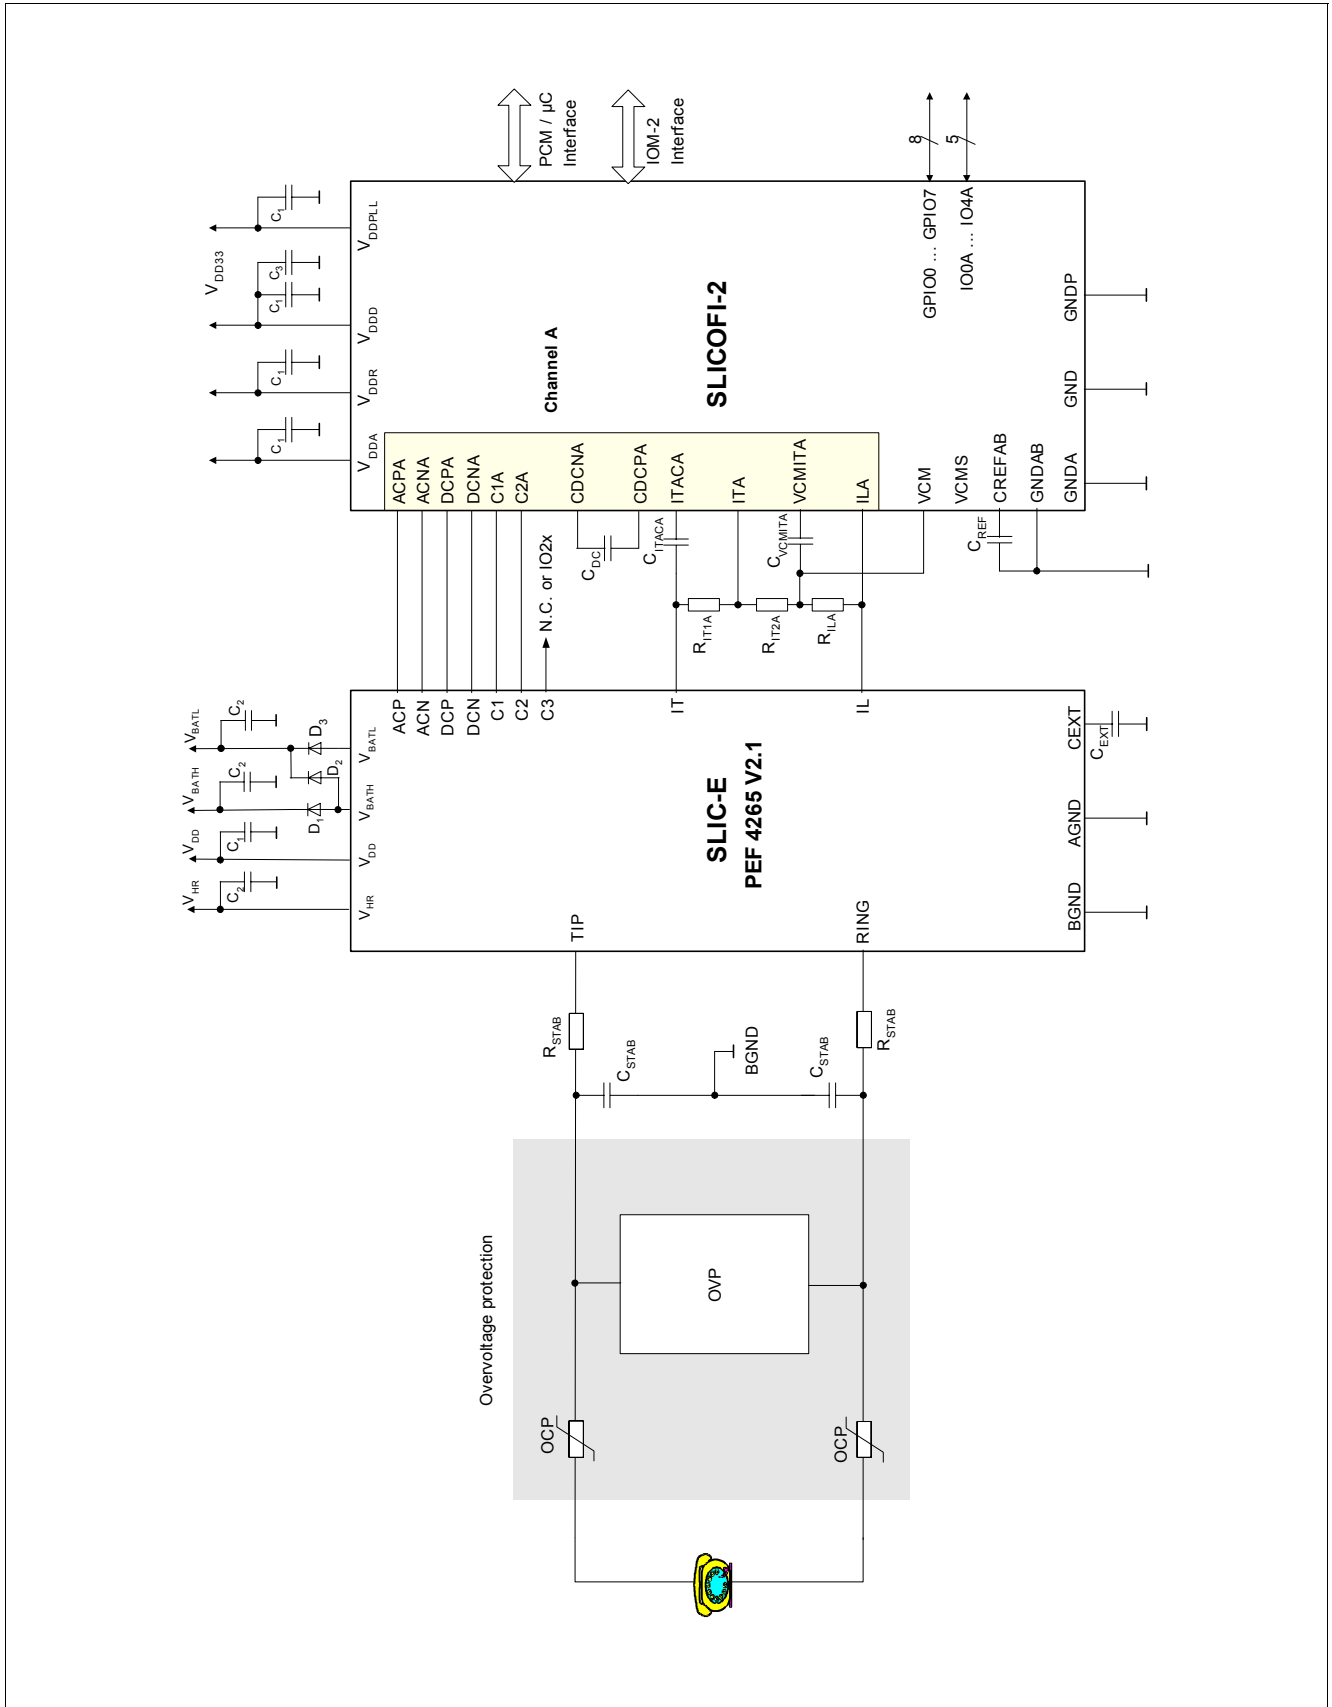
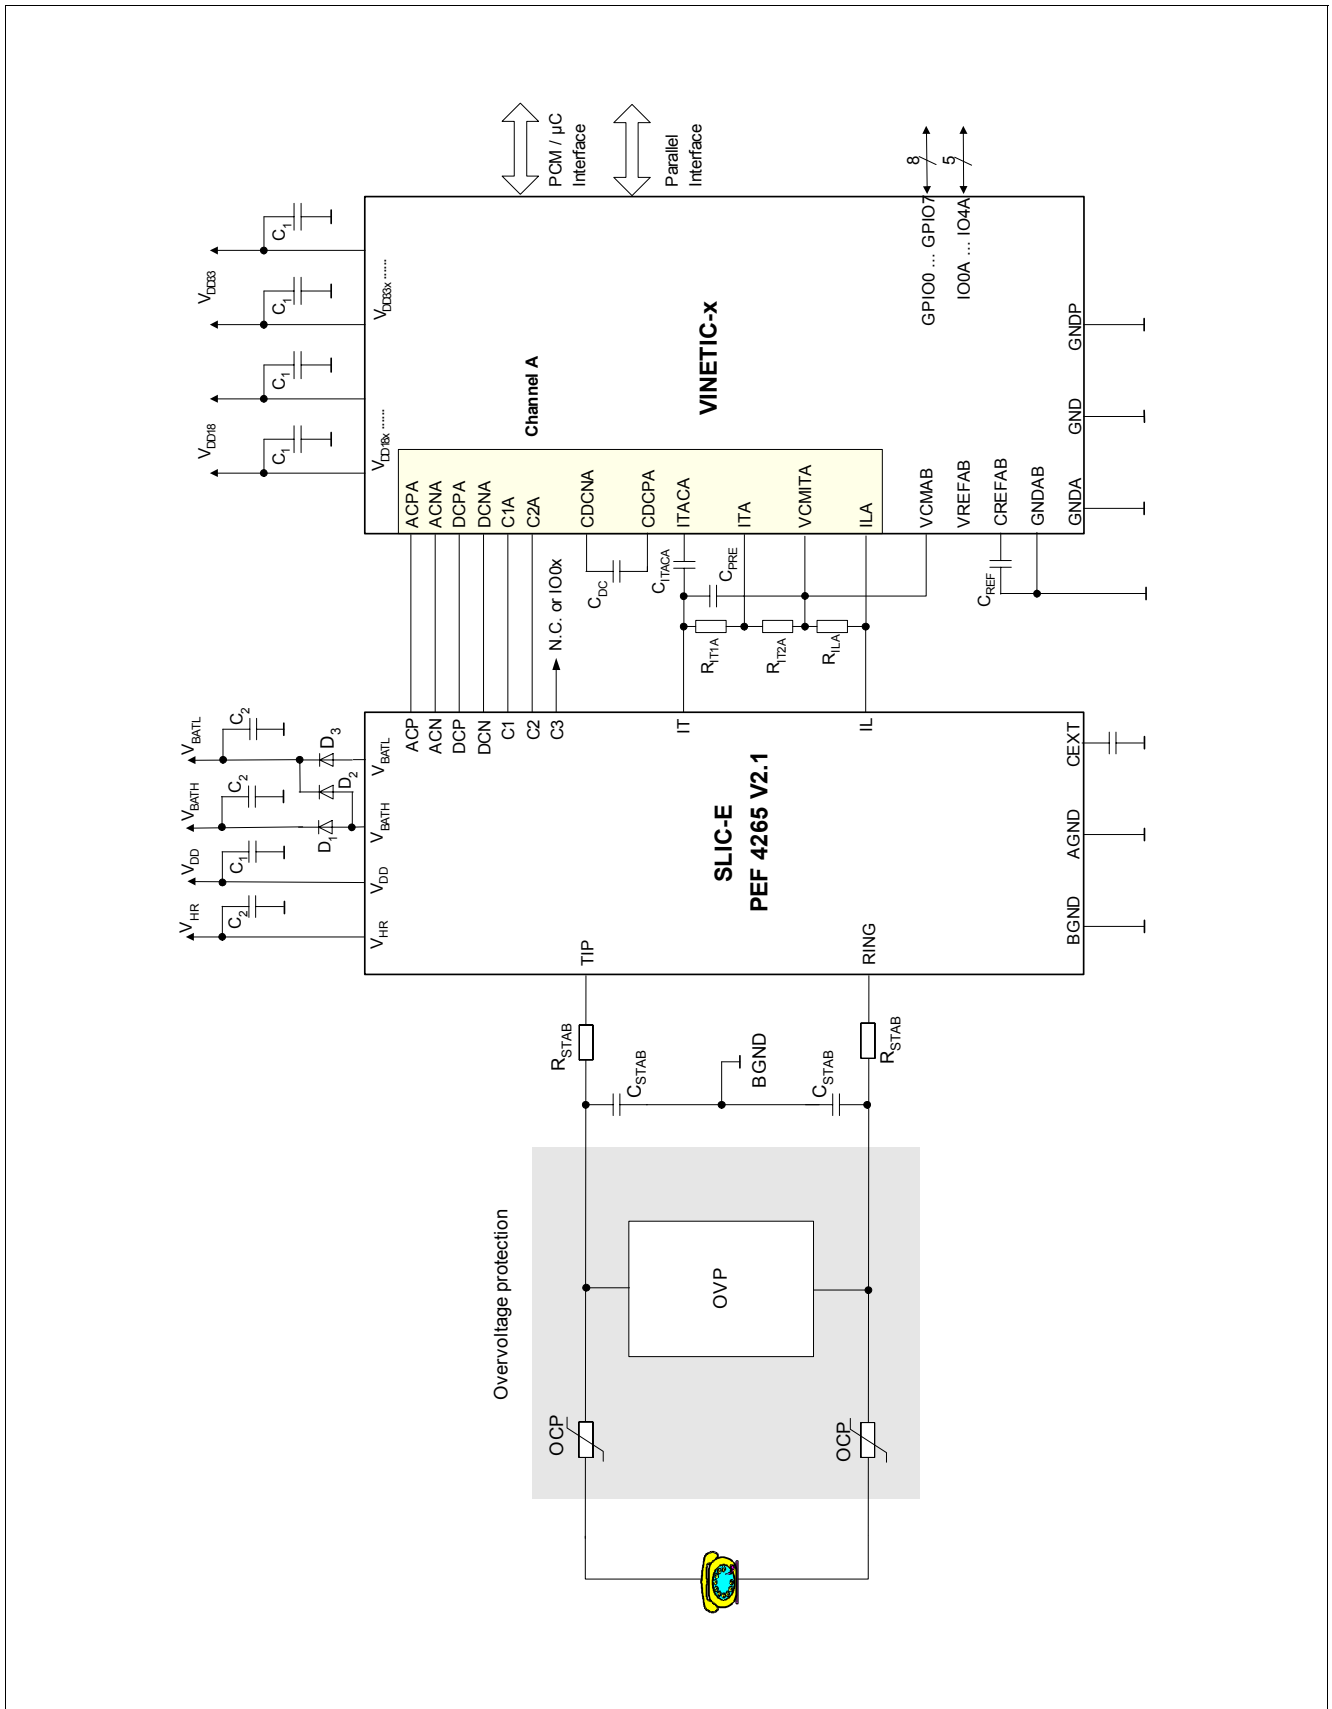

Figure 8 Application Circuit DuSLIC®
Figure 9 Application Circuit VINETIC®
**Figure 8** to **Figure 9** show one channel of application circuits including SLIC-E / TSLIC-E V2.1 and SLICOFI®-2/-2S or VINETIC® codec (please refer to the latest DuSLIC® or VINETIC® Data Sheet).